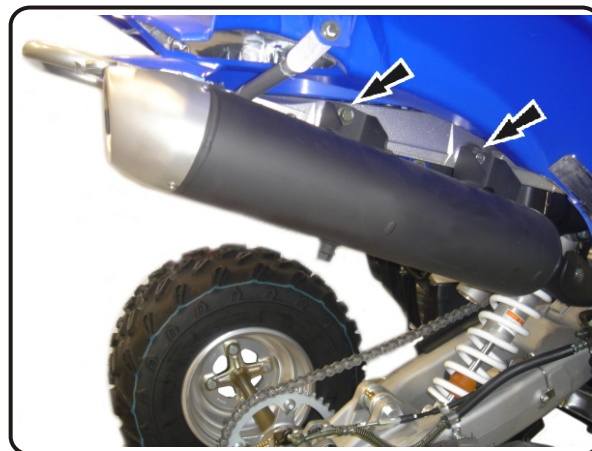

Fig. 1
- 1 Unbolt and remove stock muffler, header, and heatshields (see Fig. 1, 2, and 3 for bolt locations).